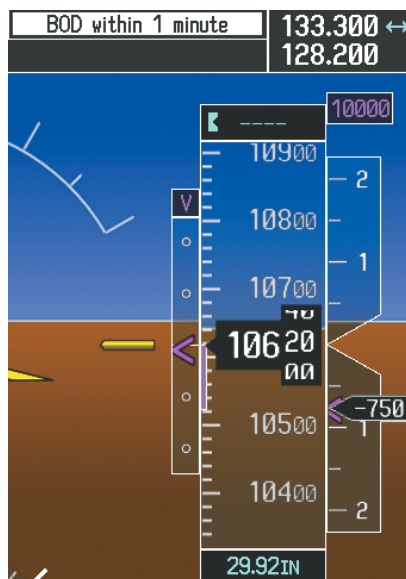

Figure 5-139 Approaching Bottom of Descent (BOD) at OPSHN Offset Waypoint
- 17) When the aircraft is one minute from the bottom of descent (BOD) it is annunciated as shown in Figure 5-139. Upon reaching the offset waypoint for OPSHN, the aircraft is at 10,000 feet.